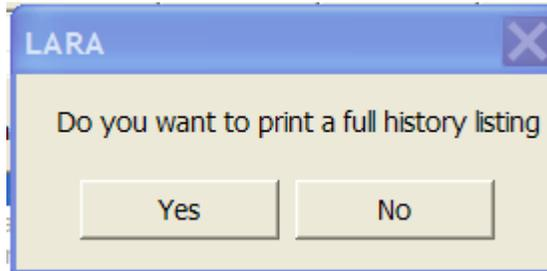

Figure 18. Print History Listing
- (2) Press “History Listing” to complete the record. By pressing history listing you are committing the record to the database. Not pressing history listing will leave the sample still open and it will appear in the incomplete samples box at the top of the screen. After pressing “History Listing” the following screen appears asking if you wish to print a full history listing (Figure 18).